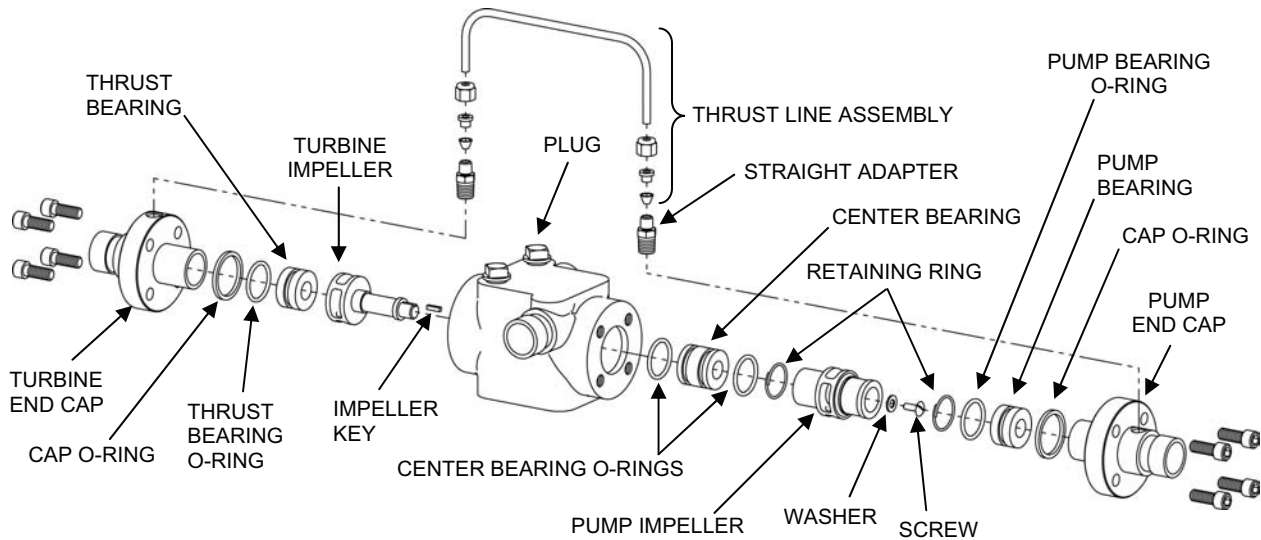

Figure 25. Pressure Recovery Turbocharger PRT-1.
3. Disassemble the turbocharger as follows (see Figure 25):
It may be necessary to remove the plug as indicated in Figure 25 and insert a thin screwdriver or other tool into the hole to keep the impeller from turning while you remove the retaining screw.
6. If needed, replace the pump bearing as follows (see Figure 25):
8. If needed, replace the thrust bearing as follows (see Figure 25):
9. Reassemble the turbocharger as follows (see Figure 25):